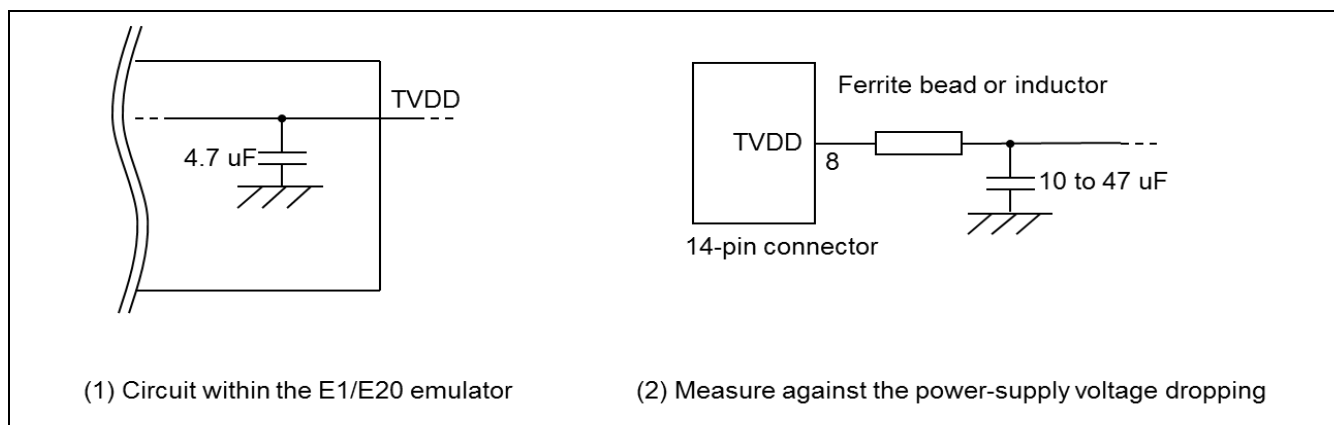

Figure 2-9 Circuit Configuration for Hot Plug-in
If there is a possibility you will be using hot plug-in connection, you will need to configure the circuit as shown below. Pin 8 of the E1 emulator is connected to a 4.7-uF capacitor as shown in (1) in Figure 2-9, so hot plug-in connection of the emulator may lead to a momentary drop in the power-supply voltage on the user system. This might cause the MCU to be reset.
As shown in (2) in Figure 2-9, this effect can be reduced by placing a ferrite bead (or inductor) and relatively large capacitor with low equivalent series resistance near the TVDD line of the connector for connection of the emulator. However, this measure will not completely eliminate the voltage drop. Note that hot plug-in connection is only for use during debugging, and a separately sold hot plug-in adapter is necessary to use this function otherwise.